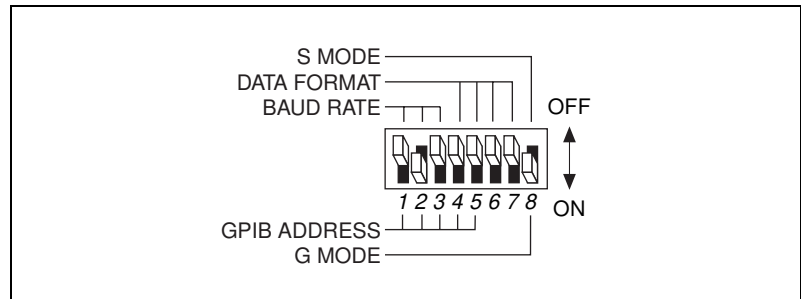

Figure I-3. Sample Switch Settings for an HP Serial Plotter
1. Set the GPIB-232/485CT-A configuration switches to primary address 2, as shown in Figure I-3.